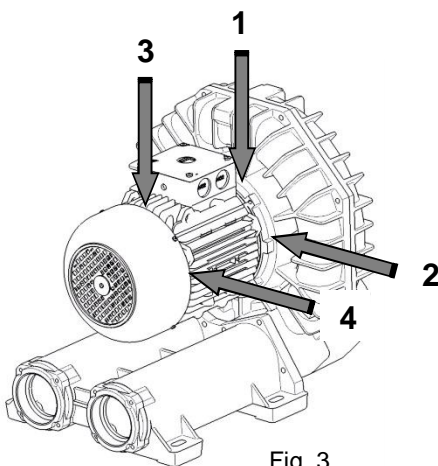

Fig. 3
- **Position 1 e 2 (front bearing):** the tip of the vibrometer must be placed in the direction perpendicular to the axis motor on the surface of the body in proximity of the bearing housing in the positions shown in fig 3. Take a reading by recording the highest value,
- **Position 3 e 4 (rear bearing):** the tip of the vibrometer must be placed in the direction perpendicular to the axis motor on the surface of the electric motor in proximity of the bearing housing in the positions shown in fig 3. Take a reading by recording the highest value.